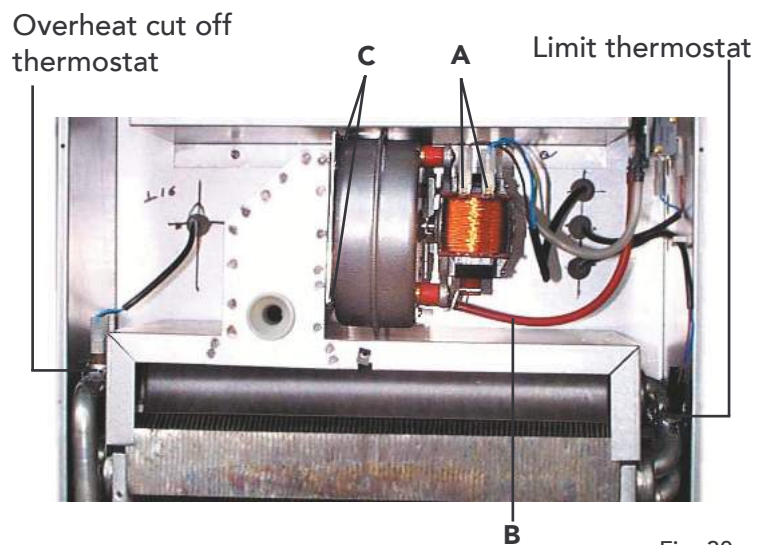

Fig. 30
## 7.12 Removal of fan (fig. 30)
## 7.13 Limit thermostat, or overhear cut off thermostat (fig. 30)
- Identify the location of thermostat from fig. 30